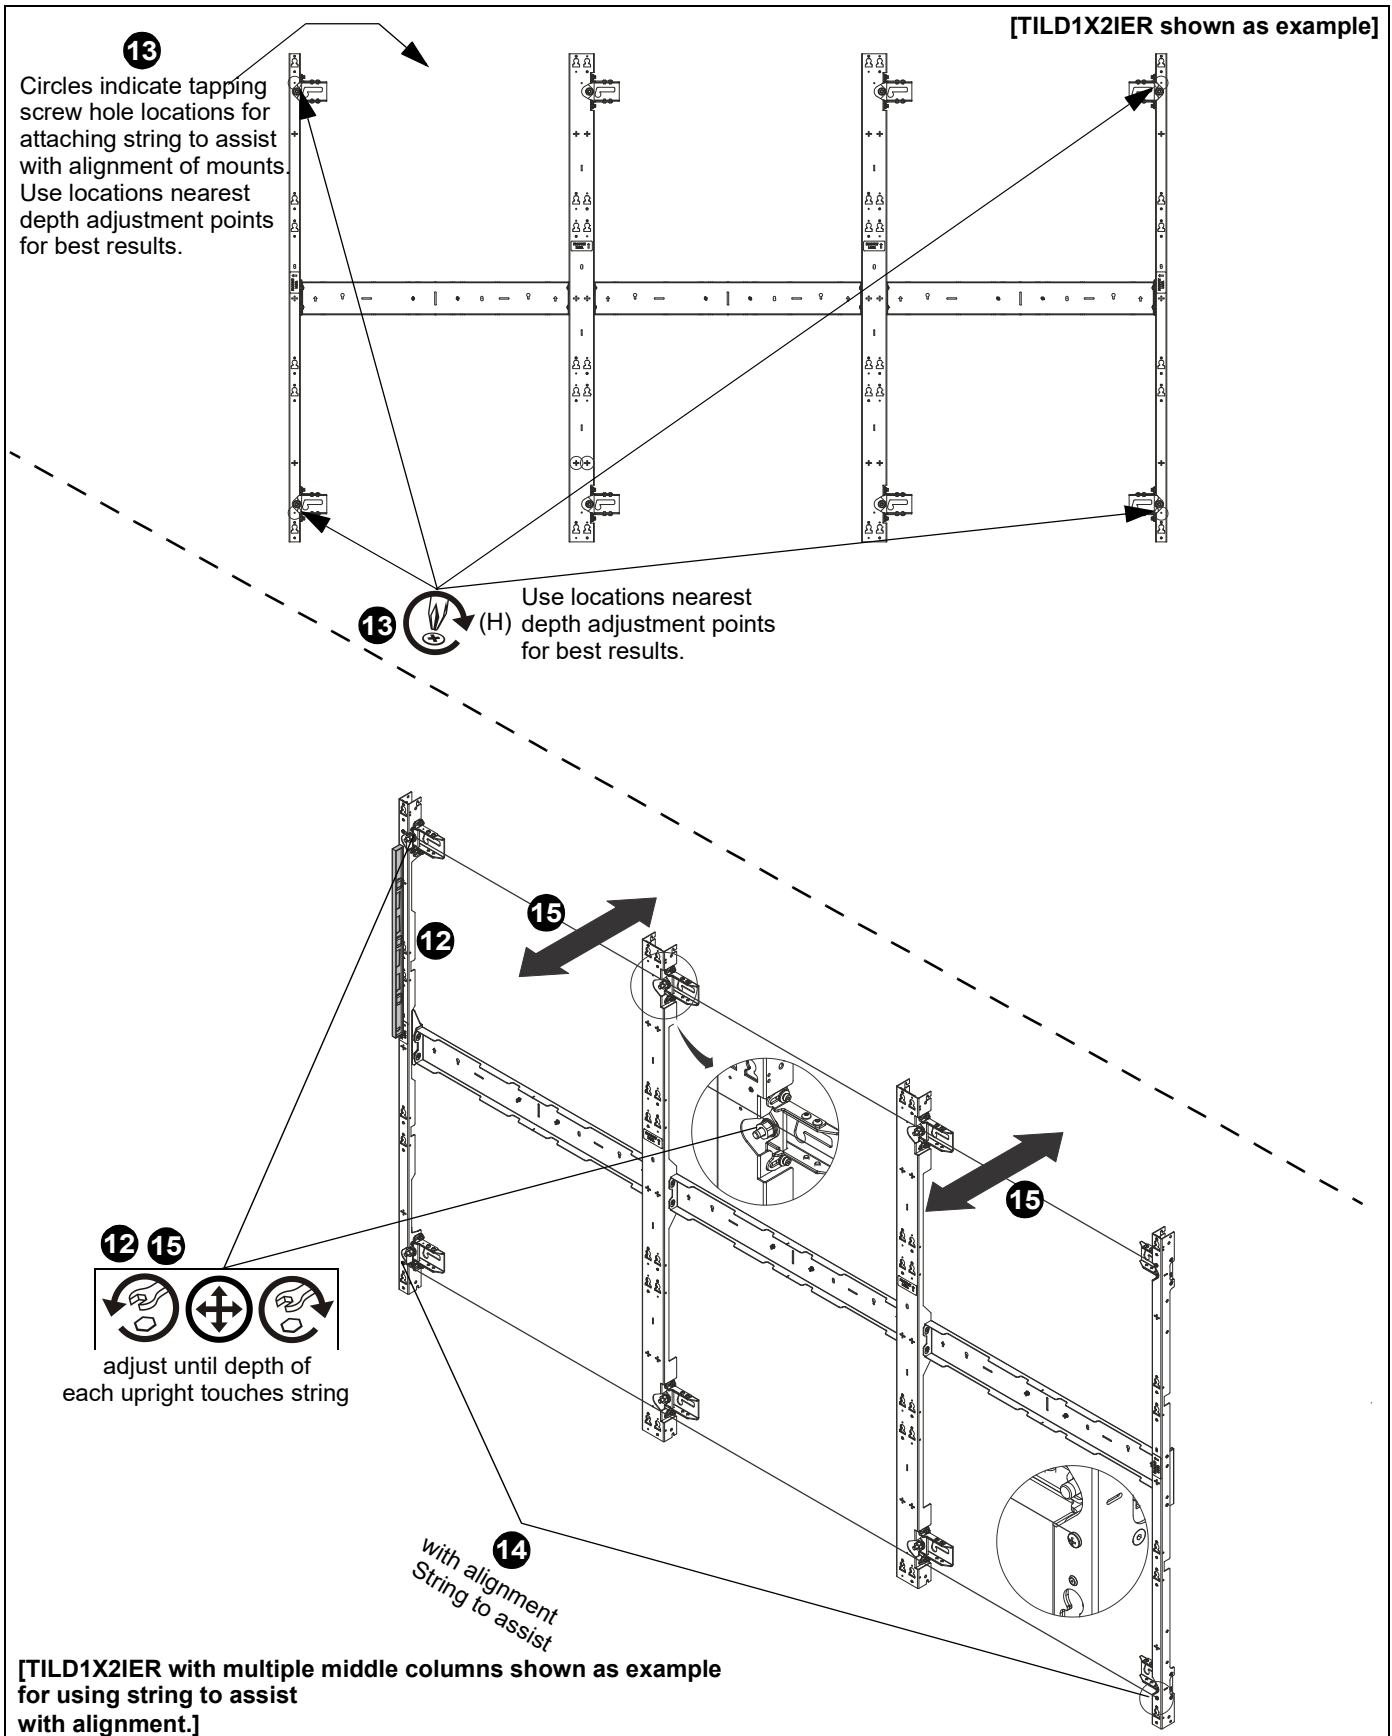

Figure 18
11. Install two fasteners and fender washers (D) through lower part of mount and tighten.
12. Continue the installation process until all wall mounts are attached. Use a magnetic level on front face of outside uprights to make sure they are plumb. Use 3/4" hex nuts to adjust as needed. (See Figure 18)
13. Install #10 x 1/2" self-tapping screws (H) on the mount in the far left and far right uprights to assist in plumb leveling. (See Figure 18)
14. Run a string between the self-tapping screws installed in **Step 13** to assist with alignment across long sections of mounts. (See Figure 18)
15. Turn 3/4" hex nuts on each middle upright to adjust depth to match the string line as needed. (See Figure 18)